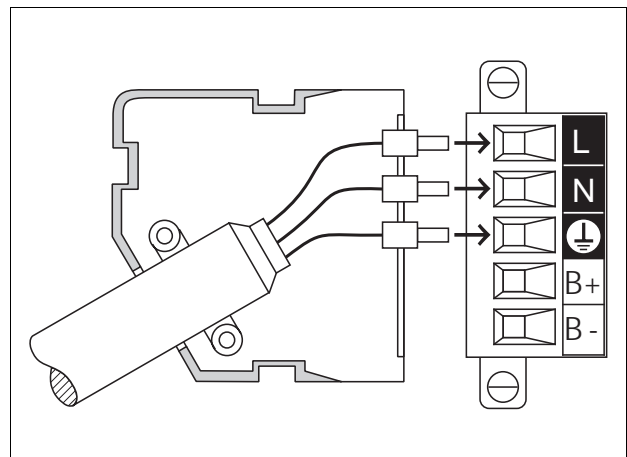

Fig. 2-3 Mains connection – unit side
1. Loosen screws and remove mains connector (fig. 2-3).